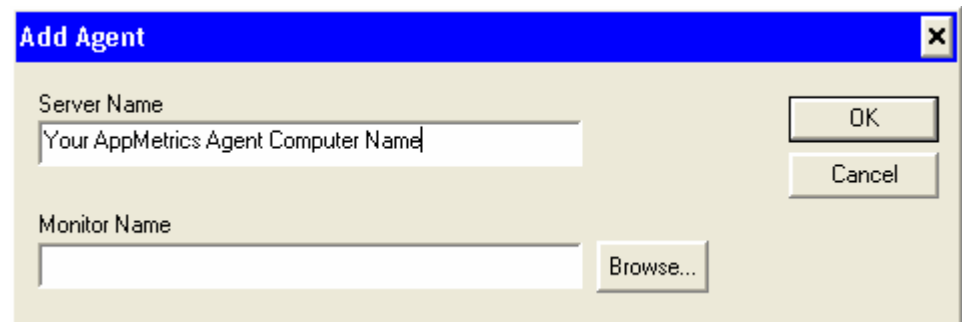

Figure 12
6. At the add agent dialog box **Server Name** field you should type in the computer name of the AppMetrics Agent machine in which you wish to create an Agent Monitor (see Figure 12).